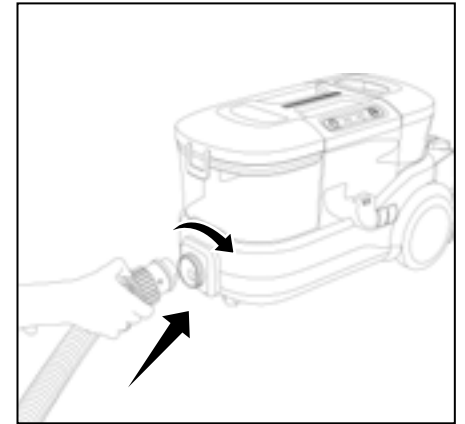

Fig. 1
1. Insert and align the valve into the front hose inlet and twist the hose connection until securely fastened (Fig 1)